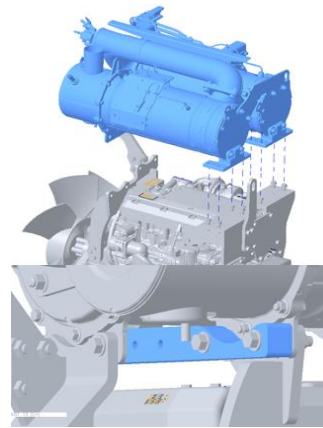

Figure 13
12. Align the ATD unit (30) to assemble onto the front and rear ATD mounting brackets using sliding ATD mounting bracket, fan side brace (12). Slide the ATD mount bracket (12) after the ATD unit is lined up such that the bracket aligns with the holes to fit onto the ATD unit as shown in the figure 13.